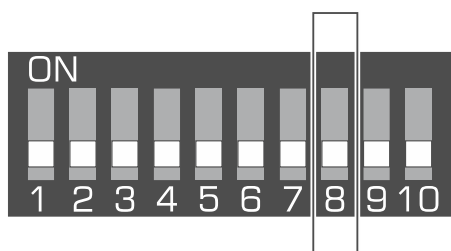

Fig. 3. Switch for selecting the antenna used for transmitting.
**Switch 8** (Fig. 3) defines the antenna that will be used for transmitting: